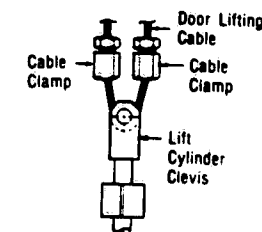

Figure 7-3. CONNECTING DOOR LIFTING CABLE.
- b. Through one of the cable clamps removed in step 5, through the lift cylinder clevis, and then through the other cable clamp removed in step 5. Refer to Figure 7-3.